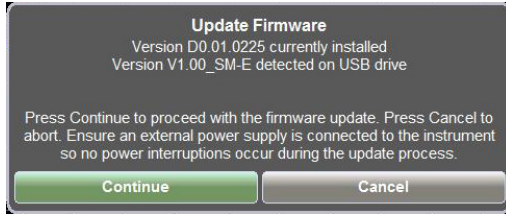

Figure 11-8. Update Firmware Message
6. Press the **Preset (1)** key.
7. Under the Reset submenu press Update Firmware. The Update Firmware dialog (Figure 11-8) appears.